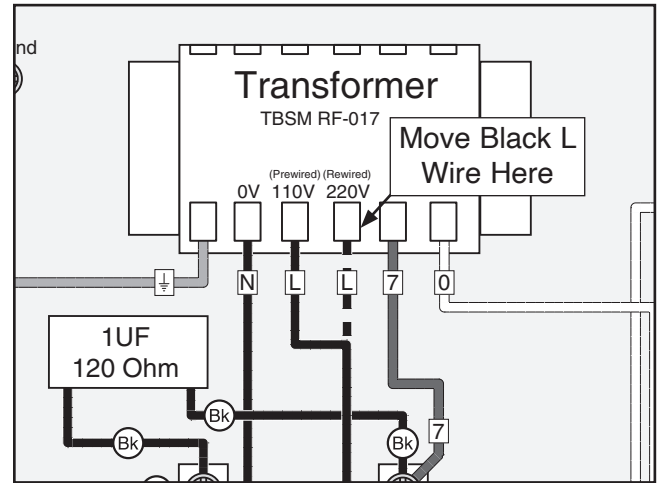

Figure 14. Location of transformer 110V and 220V terminals.
- Move black L wire on transformer from 110V terminal to 220V terminal (see **Figure 14**).